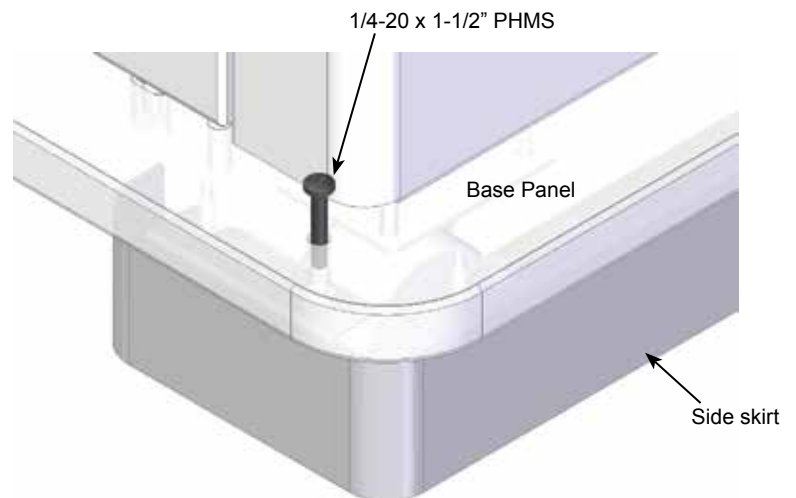

Figure 1C
1. With the side skirt and base holes aligned, install a 1/4-20 x 1-1/2" PHM screw through the top of the base to secure each side skirt. **Figure 1C.** Starting the screw by hand will help locate the threaded hole in the skirt.